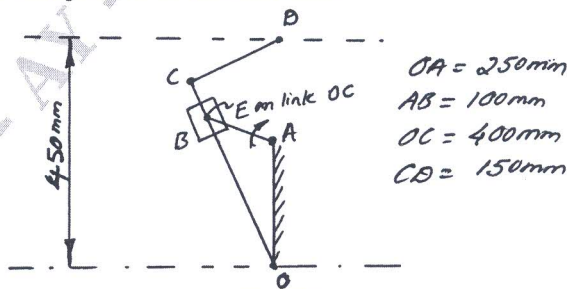

Fig.Q4
- 4 In the mechanism shown in Fig.Q4. The crank rotates at a uniform speed of 60 rpm CW. The line of stroke of ram is perpendicular to OA. Determine the velocity and acceleration of D. Illustrate Coriols component of acceleration. (16 Marks)